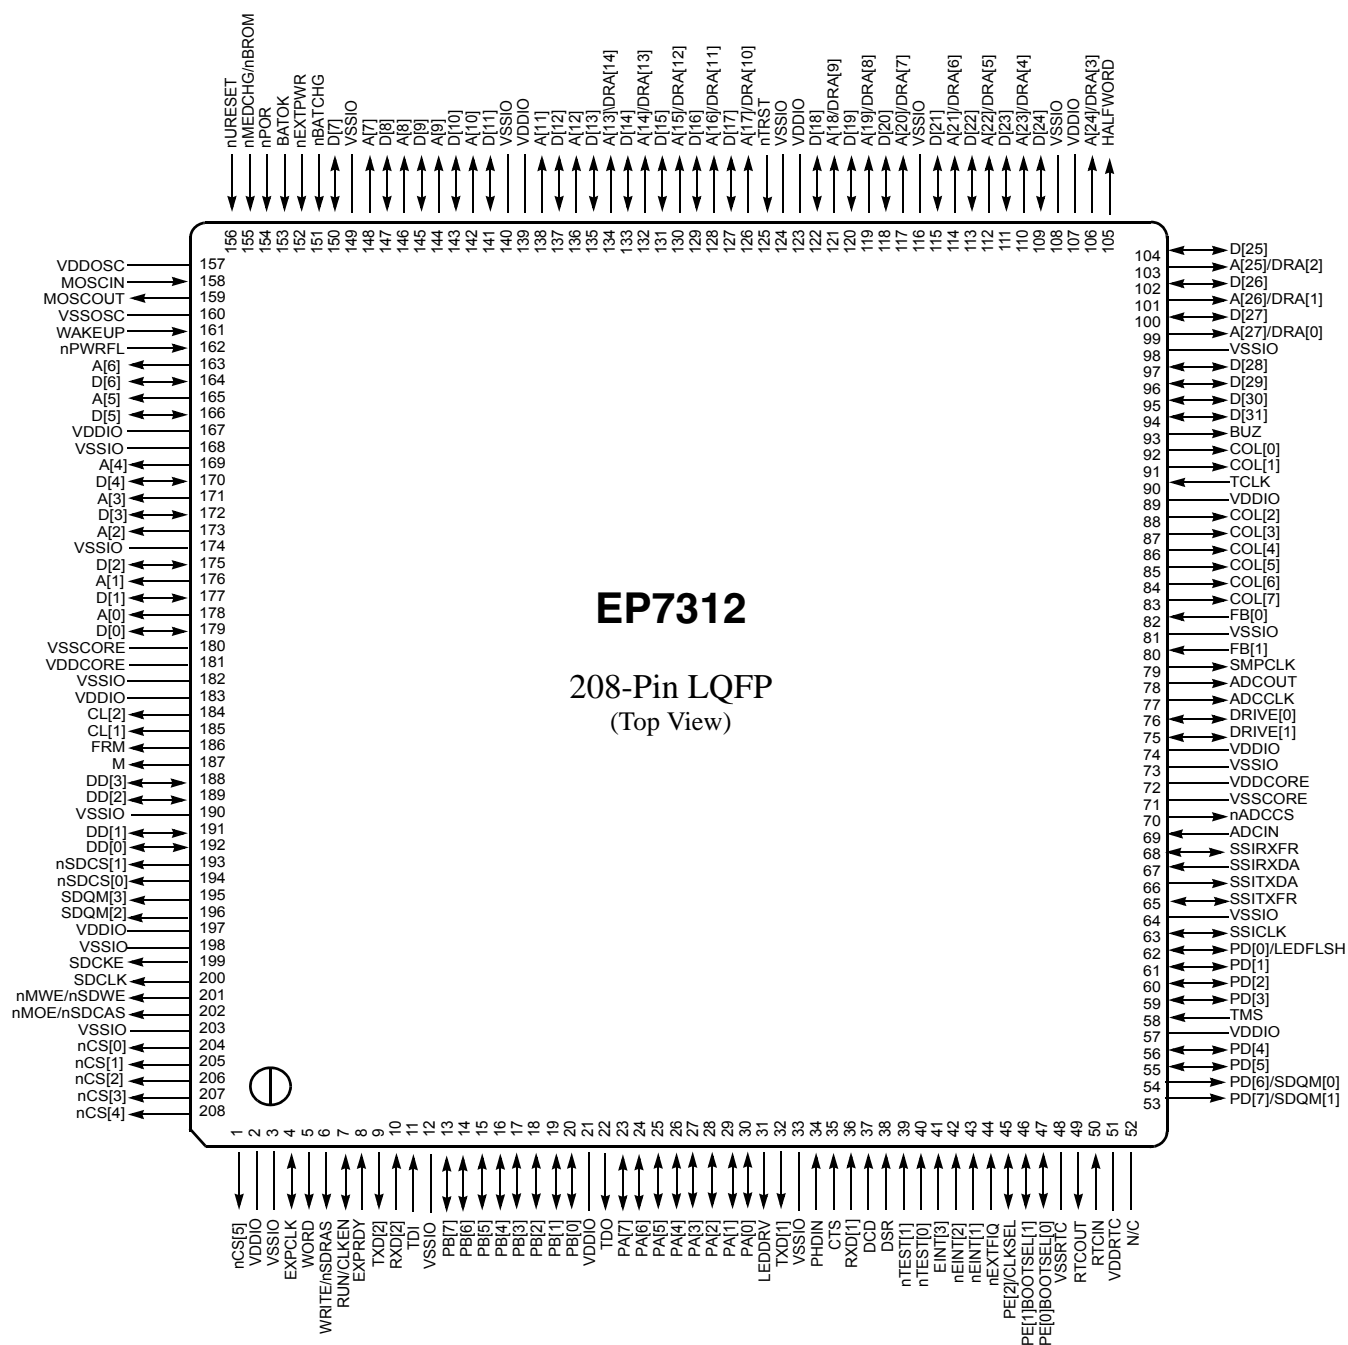

Figure 16. 208-Pin LQFP (Low Profile Quad Flat Pack) Pin Diagram
- 4) For pin locations, please see Figure 16. For pin descriptions see the EP7312 User's Manual.